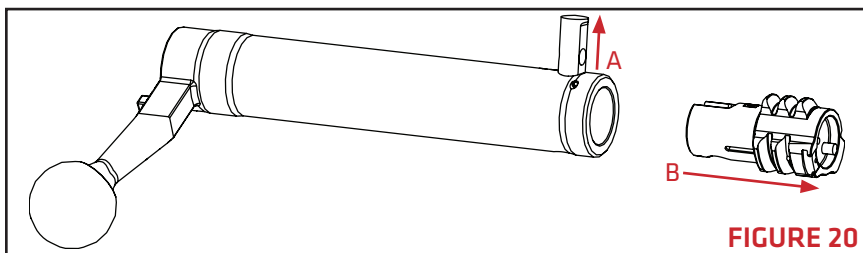

FIGURE 20
4. Push the bolt pin (FIGURE 20-A) to the side of the bolt assembly. Note that the bolt pin is retained in the bolt body and does not need to be completely removed.
5. Remove the bolt from the bolt tube (FIGURE 20-B).